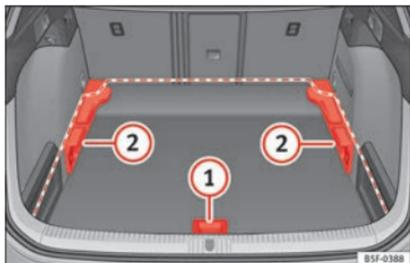
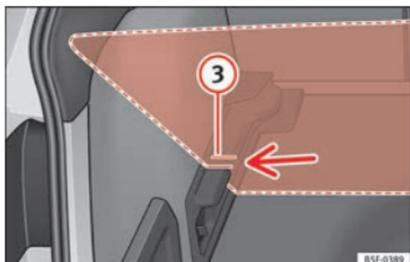

Fig. 182 Luggage compartment variable floor: positions.
Fig. 183 Luggage compartment variable floor: grooves tilted.
- Lift the floor using handle »» Fig. 182 ① and pull it back until the front of the floor has fully passed the supports ②.
- Move the floor forward over the supports as far as the rear seat backrest and then lower the floor with the handle ①.
- Now match the front part with the lower grooves of the supports and slide the floor forwards as far as the rear seat backrest and lower the floor at the same time with the handle ①.
- Lift the variable floor using handle »» Fig. 182 ① and pull it back until the front of the floor has fully passed the tilted grooves »» Fig. 183 ③.
- Run the floor through these grooves with the help of handle ① as the rear seat backrest and until the floor is resting in the grooves.